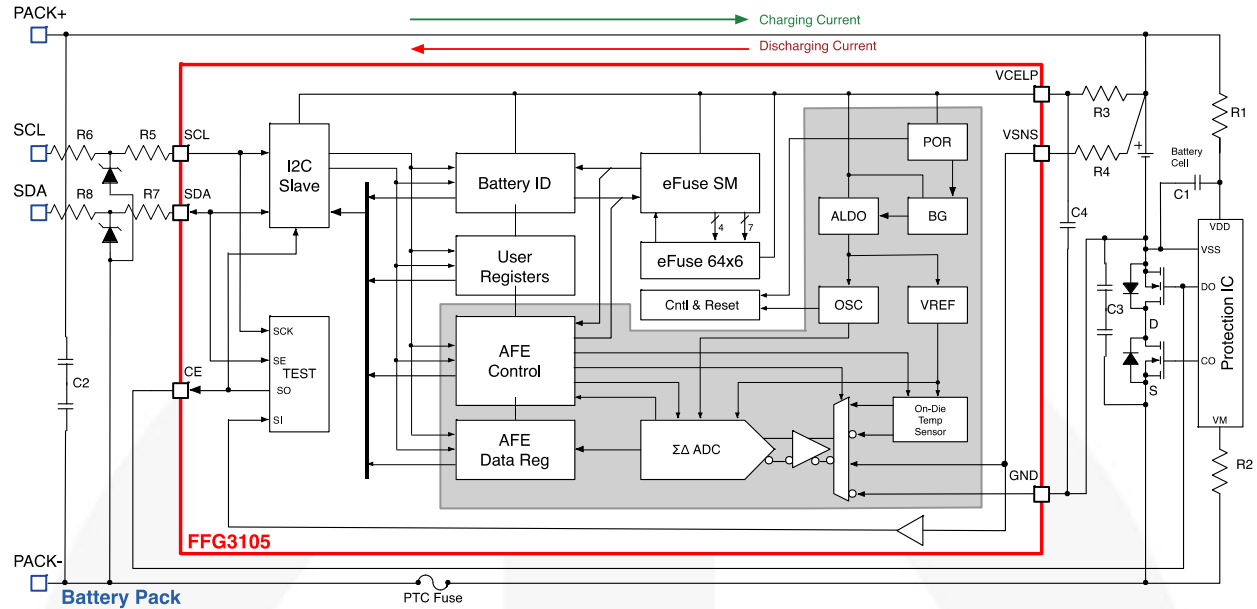

Figure 1. FFG3105 Block Diagram and Battery Pack
- C2 should consist of two capacitors in series as shown in Figure 1 in the event one of the capacitors were to short circuit.